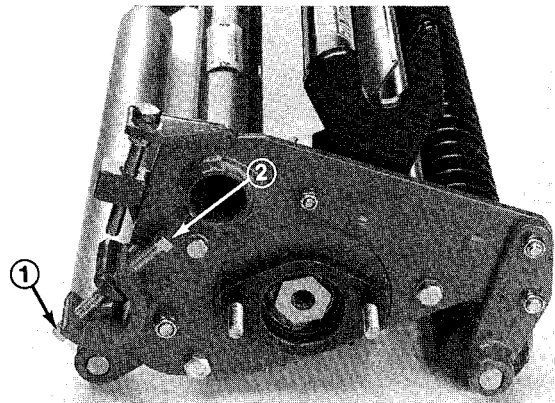

Figure 1
1. Adjustment of bedknife to reel is accomplished by first, loosening bottom screw on each side of cutting unit (Fig. 1), then tightening the top adjustment screw on each side of cutting unit. This adjustment will position the bedknife closer to the reel blades.
2. After adjusting bedknife to reel, make sure that both the top and the bottom adjustment screws are secured on both ends of the cutting unit (Fig. 1).